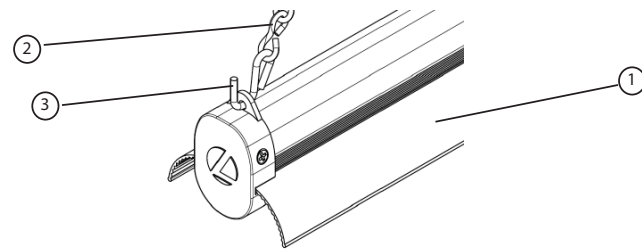

Figure 2
2. Install two hooks (not supplied) in ceiling. Attach "S" hook (3) to chain (2), and through hole on top of each end of fixture (1) (See Fig.2). Crimp both ends of hook (3). Note: Maximum distance to electrical outlet is determined by the length of power cord on fixture.